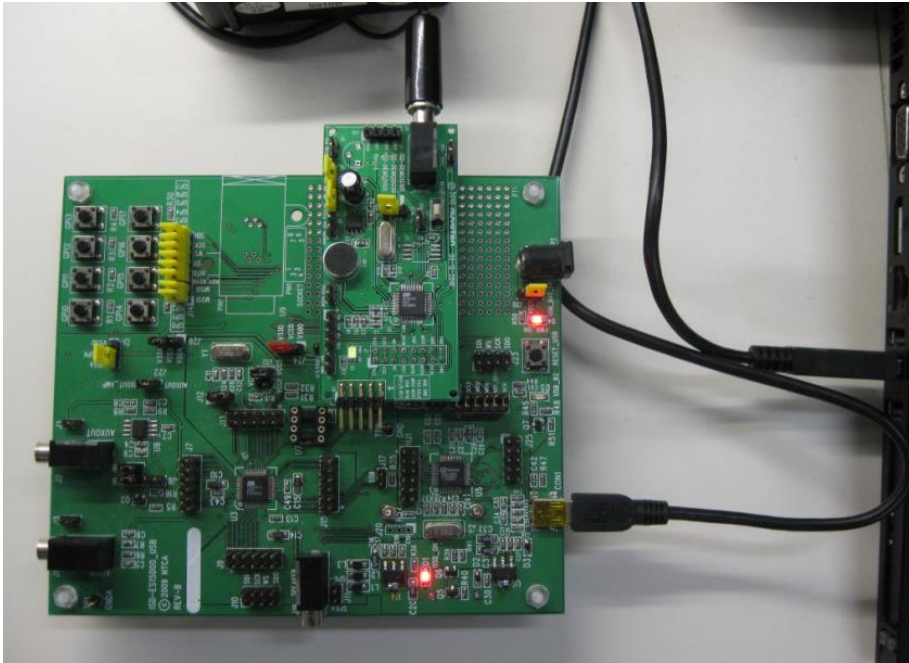

Figure 7 – ISD-DEMO15100 is connected onto ISD-ES15D00_USB mother board
- ISD-DEMO15100 + the big ISD15XXX evaluation board, shown in **Figure 7**.